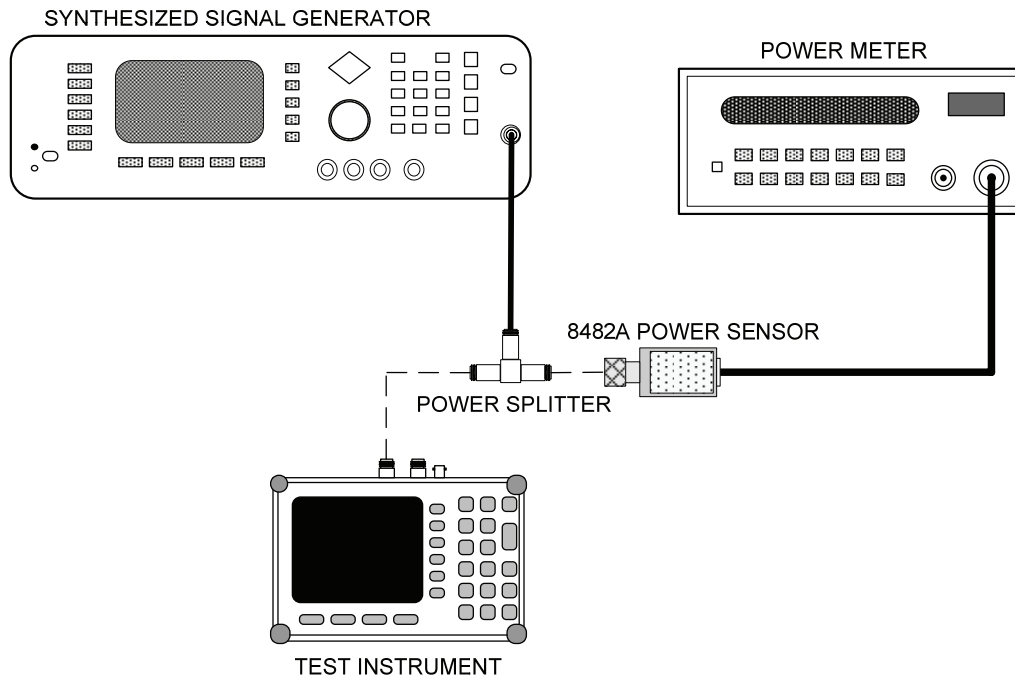

Figure 3. Measurement accuracy – equipment setup.
- (1) Connect equipment as shown in figure 3.